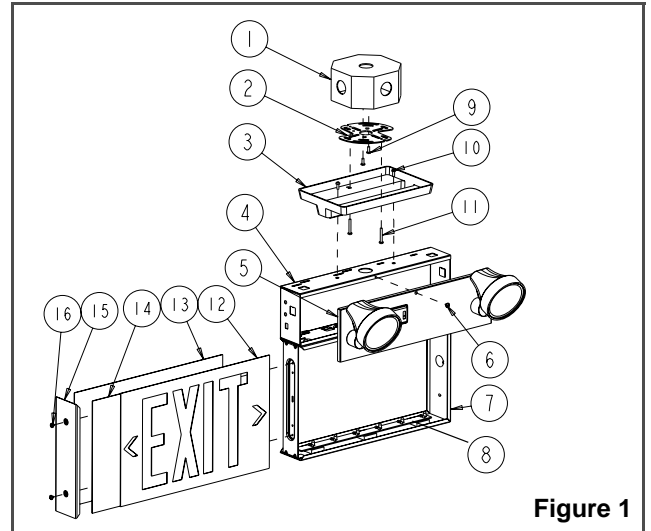

Figure 1
3. Remove exit face. To open the sign, remove end cap (see fig. 1) and slide out the exit face and diffuser panel.